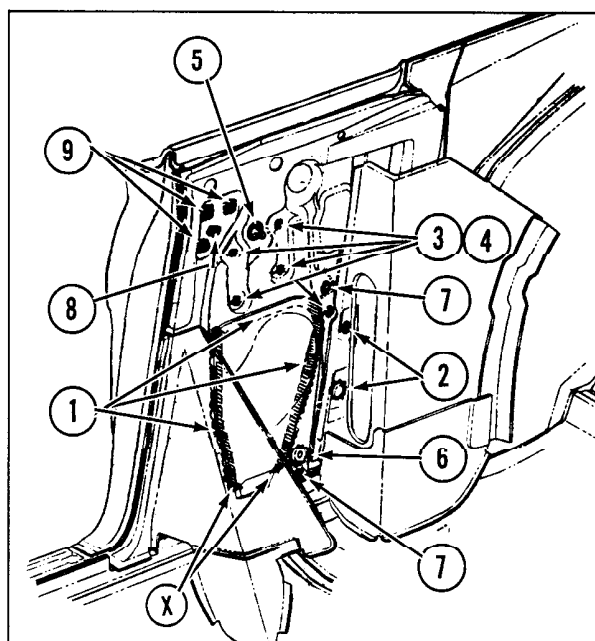

Fig. 17-63 Inner Quarter Panel Sealing ("67" Styles)
- (For "67" Styles Refer to Fig. 17-63)